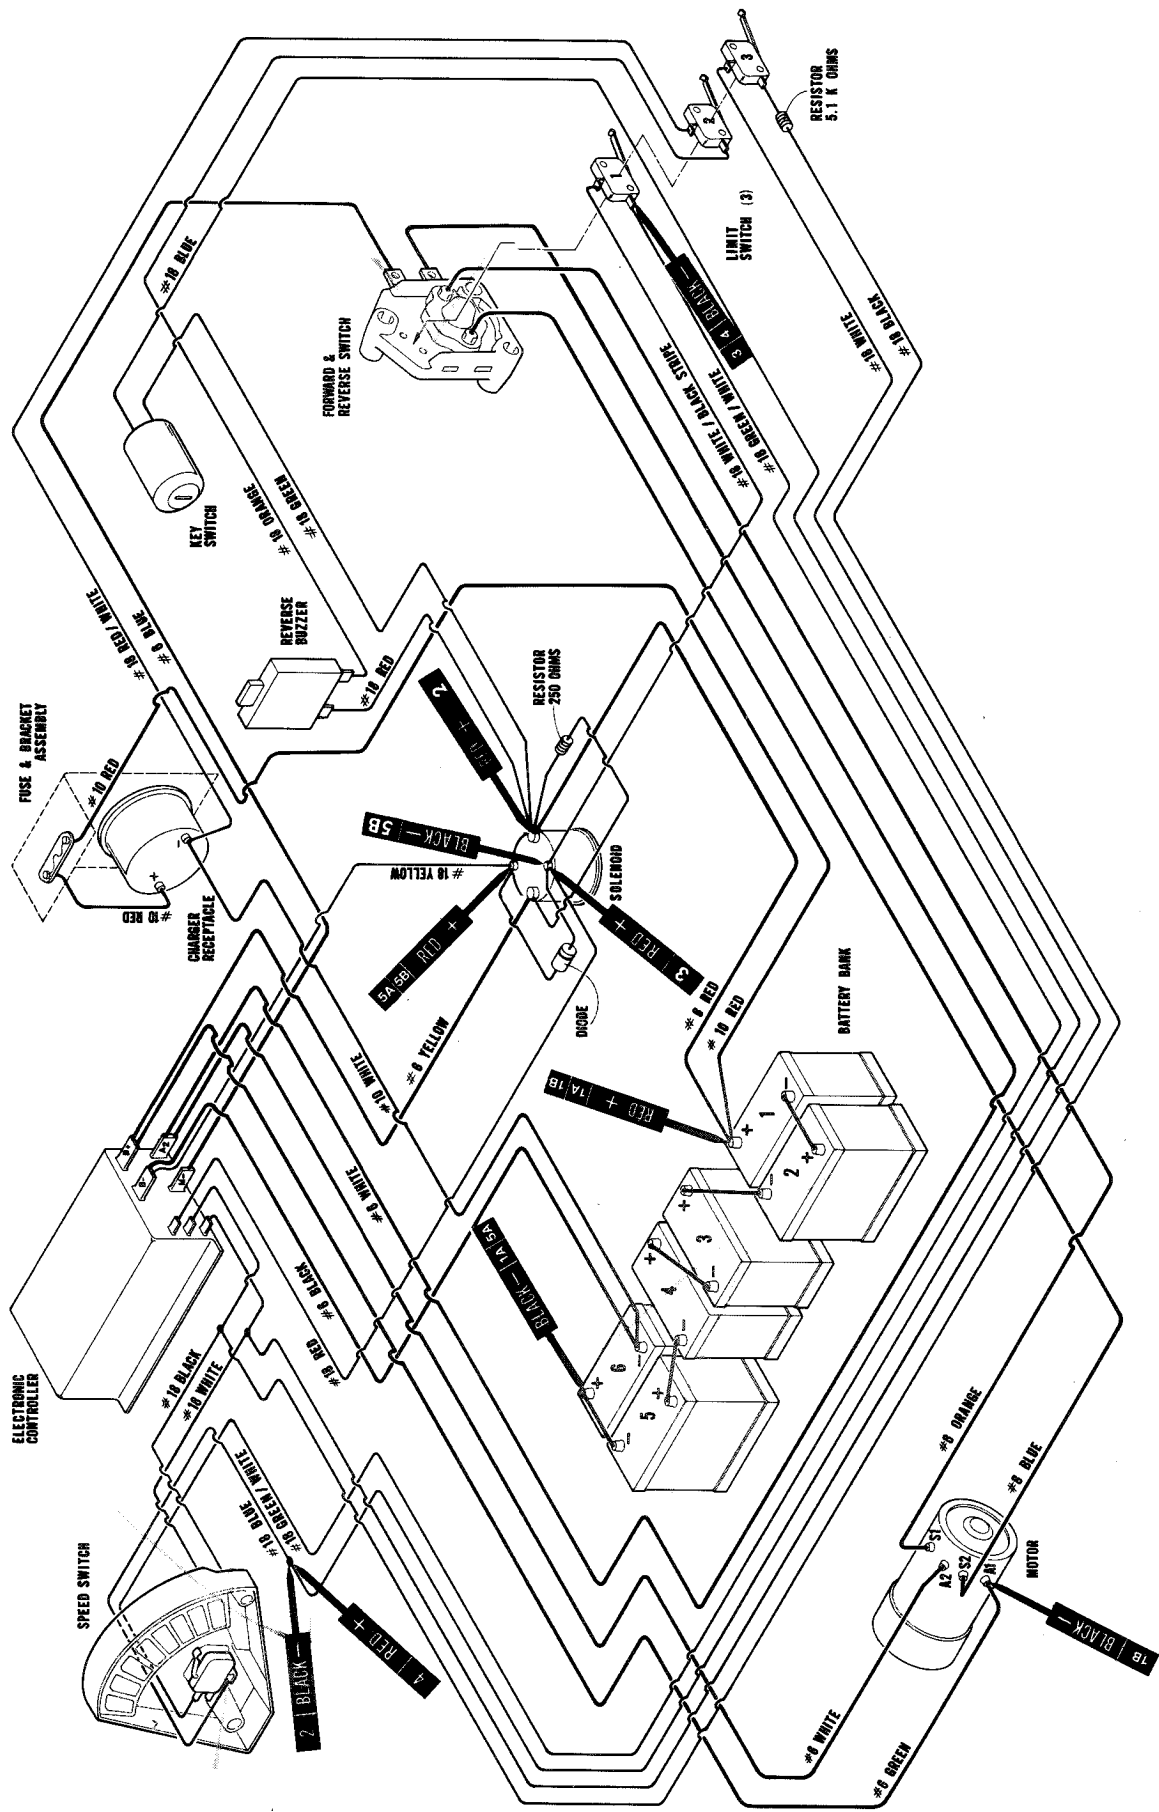
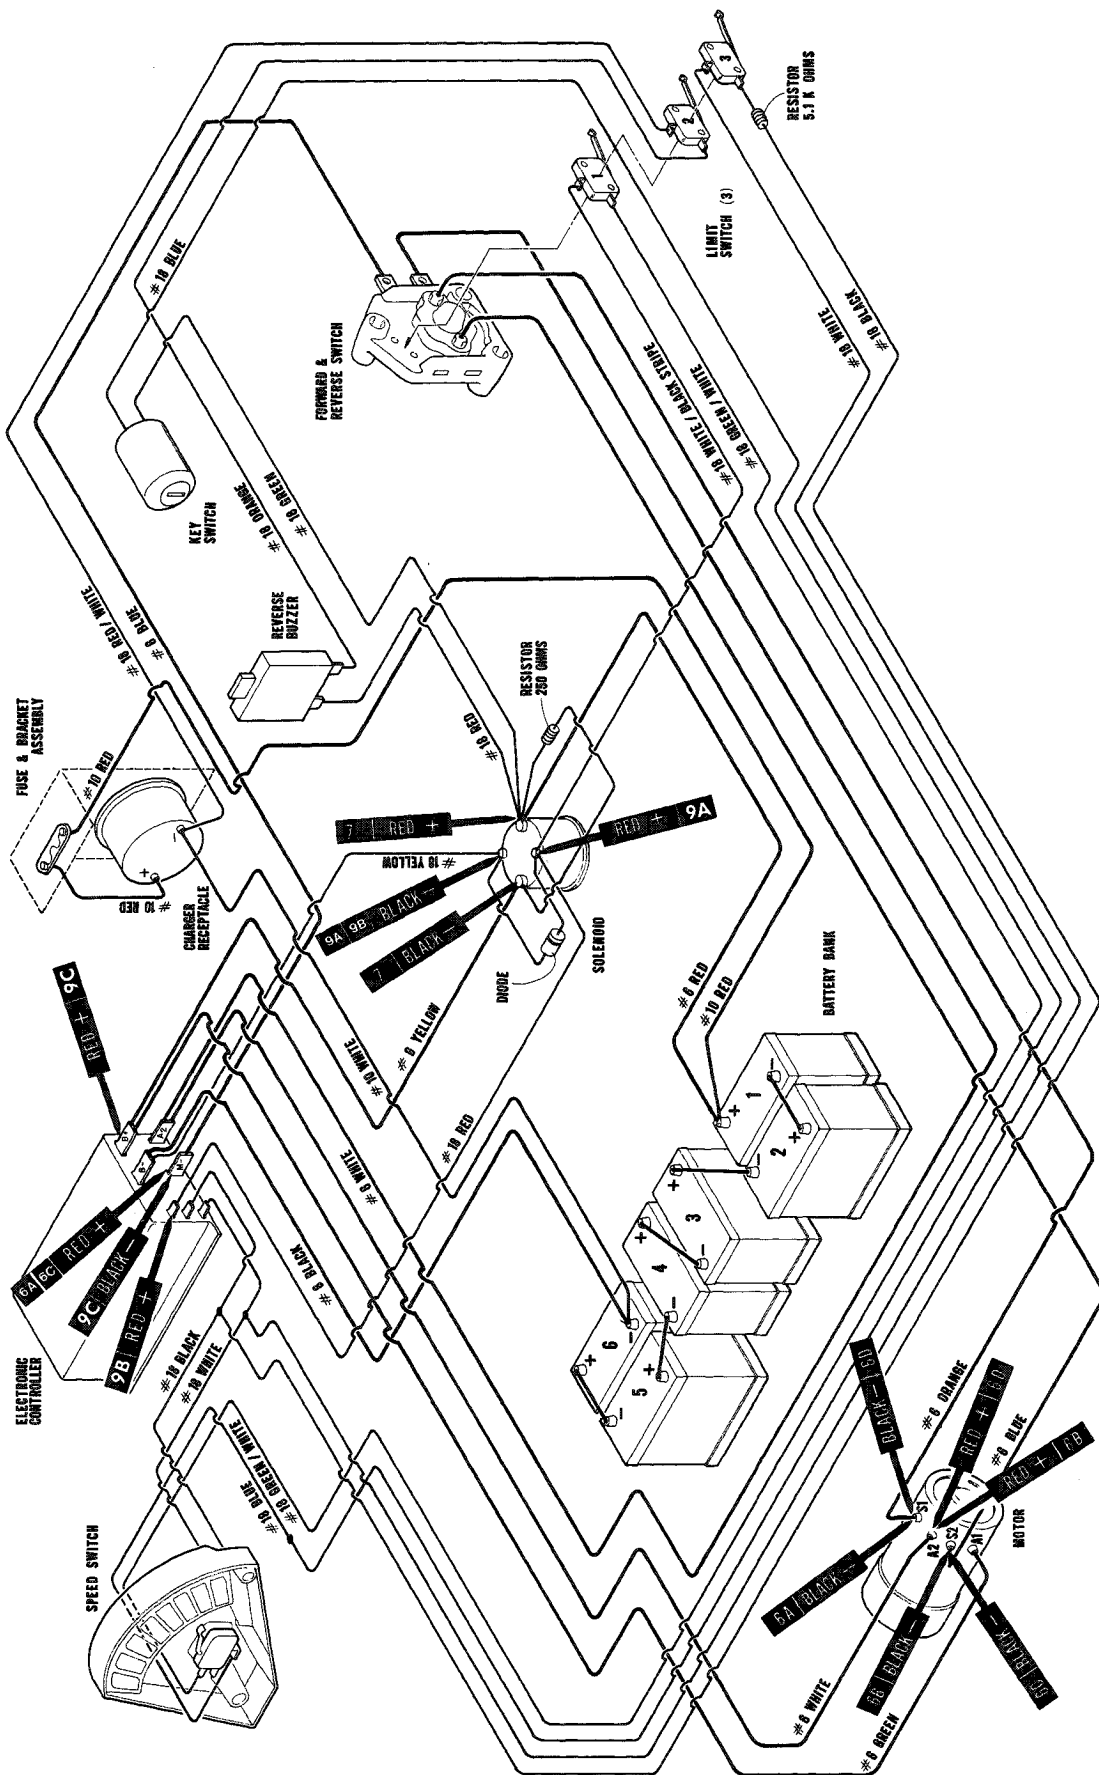

Figure 17-22 — Control Circuit
Figure 17-23 — Power Circuit
1. Refer to **Figure 17-22** for testing the control circuit and **Figure 17-23** for testing the power circuit.
2. The red (+) probe symbol and the black (-) probe symbol as shown on the wiring diagrams (**Figure 17-22** and **Figure 17-23**) indicates points where the probes should be placed for each test. The number on the probe symbol indicates the test procedure number.
1. Place the black (-) probe of the VOM on the normally open (NO) green/white wire terminal at the anti-arcing limit switch and the red (+) probe of the VOM on the wiper switch side at the blue wire disconnect (Figure 17-22).
4. If these readings are not obtained, check to be sure the wires are connected properly to the normally closed (NC) and the common (COM) terminals. Check accelerator pedal adjustment. (See Section 21).
4. Re-attach wires to controller A2 and B+ terminal (**Figure 17-23**).